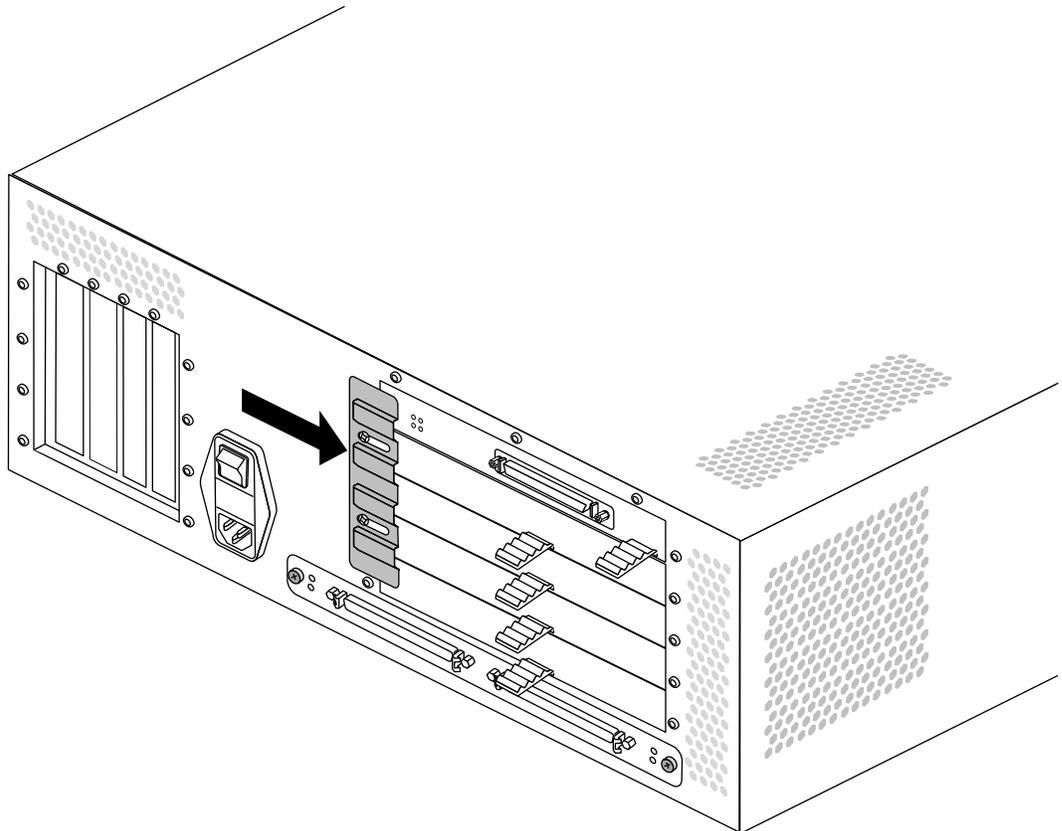

Figure 2-18 Sliding the XIO Board Retaining Plate Over the XIO Slots
6. Slide the retaining plate away from the power switch so that it overlaps the XIO slots, as shown in Figure 2-18.